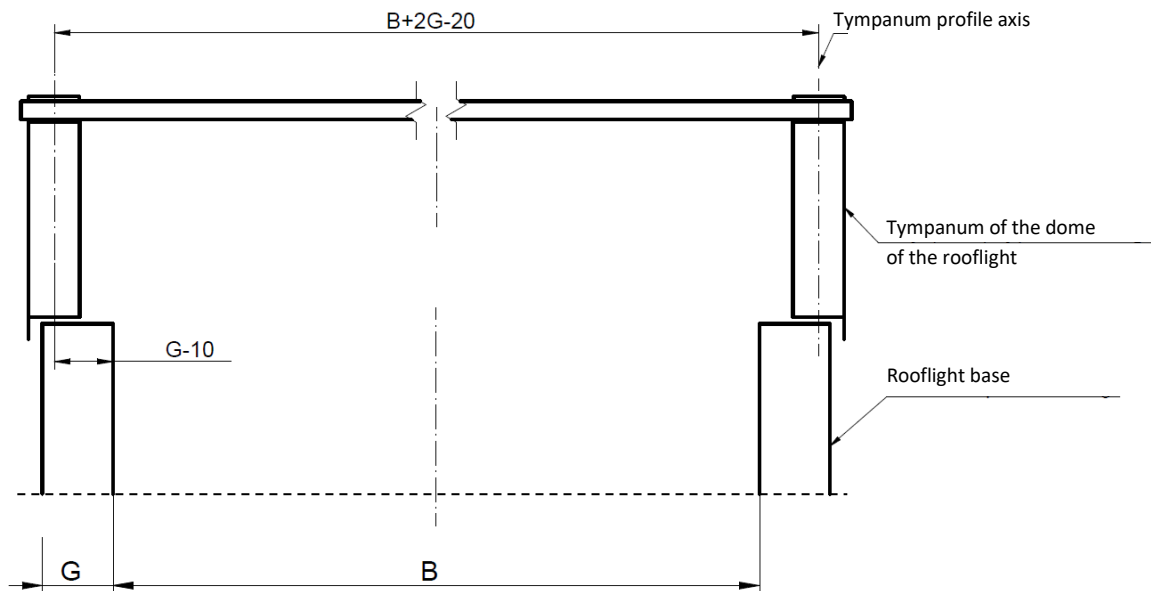

Figure 27 Arrangement of tympanum panels in relation to the rooflight base
3. Now place the assembled tympanum panel vertically on the tympanum base. Apply a PES gasket to seal a gap between the tympanum panel and the waterproofing layer, if less than 10 mm wide. Fix the tympanum panels to the base using self-drilling screws $\varnothing 6.3 \times 32$ mm, fixed at 300 – 350 mm intervals, **so that the deflection of the steel profile after tightening the screws does not exceed 3 mm at the base centre**. Once the tympanum wall has been fixed to the base, the arch-shaped tympanum profile should be fixed to the longitudinal base piece and to the edge profile using self-drilling screws $\varnothing 6.3 \times 32$. The tympanums on the opposite sides of the rooflight should be arranged as shown in (Figure 27 Arrangement of tympanum panels in relation to the rooflight base).